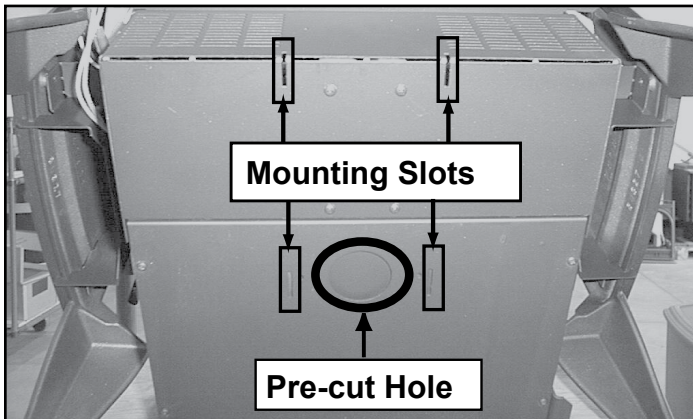

Figure 20.1
1. **Figure 20.1** shows bottom of convection blower mount and pre-cut air vent opening for reference only. Air channel should be mounted with appliance in upright position.